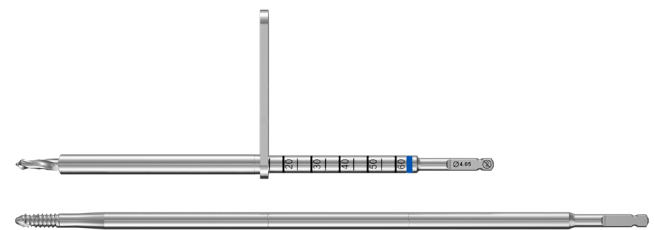

Figure 83
- 175mm half pins are designed to be used with the short tissue sleeve only. These length pins have one etching that, when aligned with the short tissue sleeve handle, indicates that the threaded region of the pin has fully cleared the sleeve's opening. **(Figure 83)**